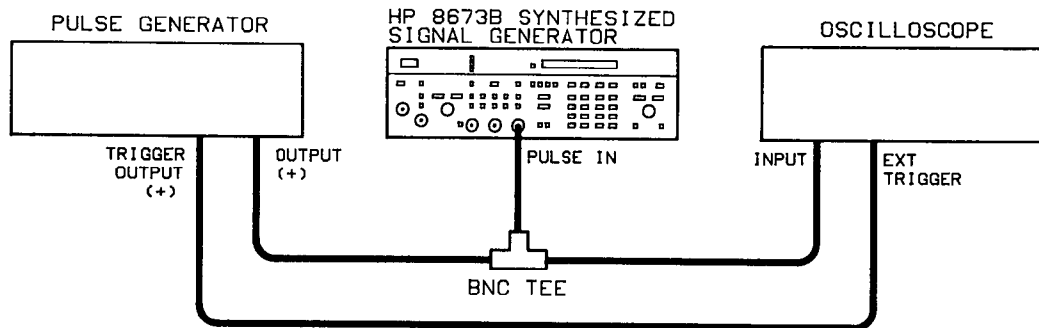

Figure 8-44. Pulse Modulation Check Setup
12. Connect test equipment as shown in figure 8-44.